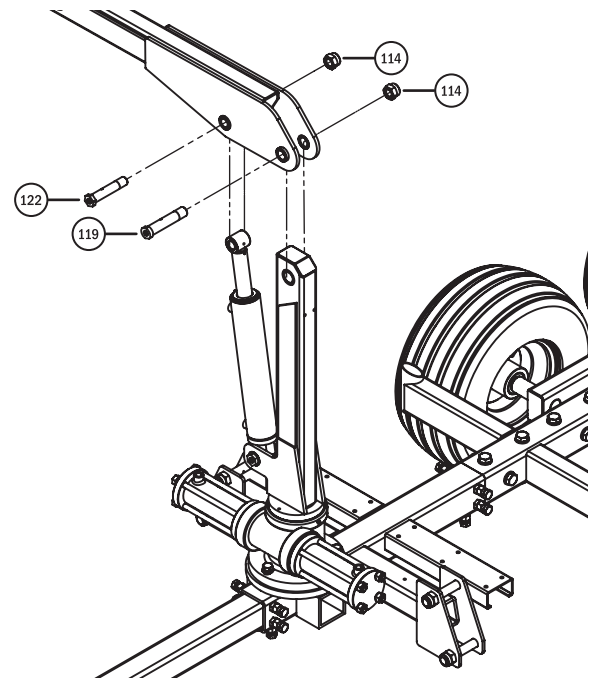

Fig. 9
**⚠ WARNING** The Boom Arm is heavy and flexible. It is recommended a minimum of two people are needed for lifting, moving, and assembling. Use of a mechanical lifting device such as a crane or hoist is recommended. When lifting, follow proper lifting techniques at all times as recommended by the Occupational Safety and Health Administration. Place the Boom Arm Assembly onto the Vertical Boom Assembly as shown in **Fig. 9** using the Pivot Pins (119 & 122) and Nuts (114). Because the Boom Arm Assembly requires free movement, the Nuts (114) need only be tightened until it bottoms out on each Pivot Pin (119 & 122) shoulder.